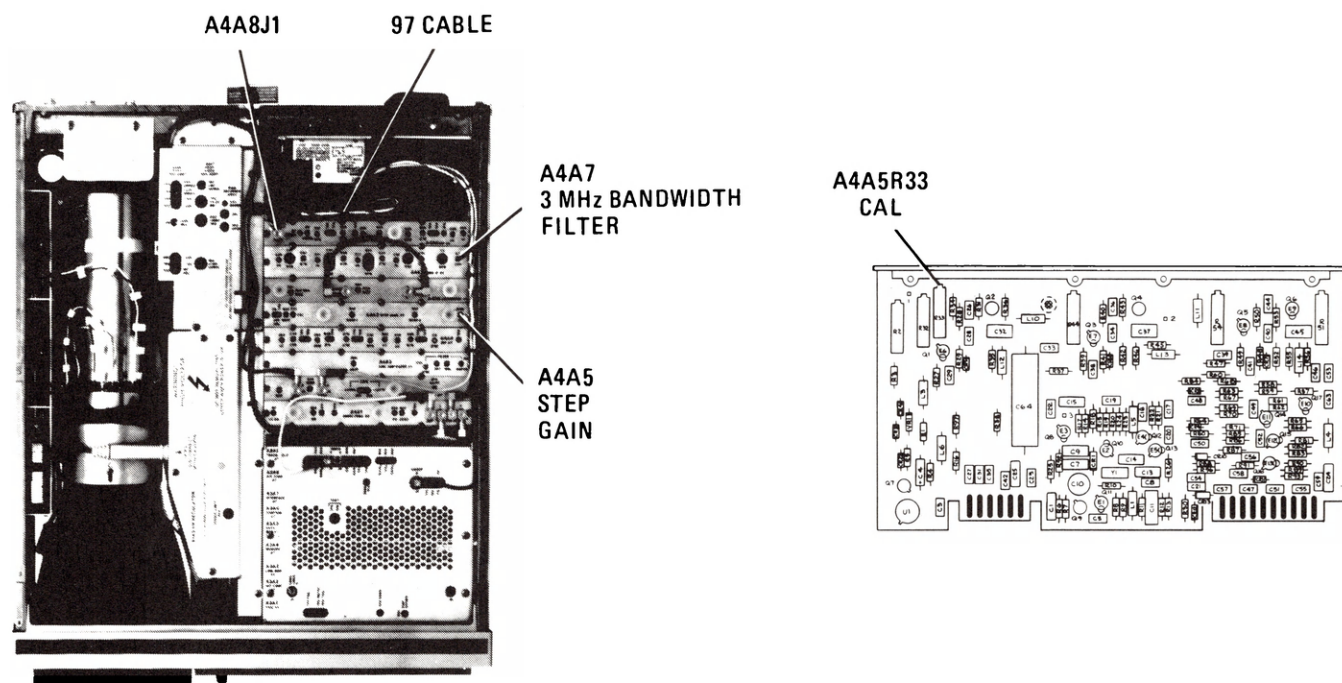

Figure 5-33. Location of IF Gain Adjustment
5. Disconnect 97 (white/violet) cable from A4A8J1 and connect cable to power meter/thermistor mount. Refer to Figure 5-33 for location of 97 cable and A4A8J1.
9. Adjust A4A5R33 CAL to align signal trace with top graticule line. Refer to Figure 5-33 for location of adjustment.